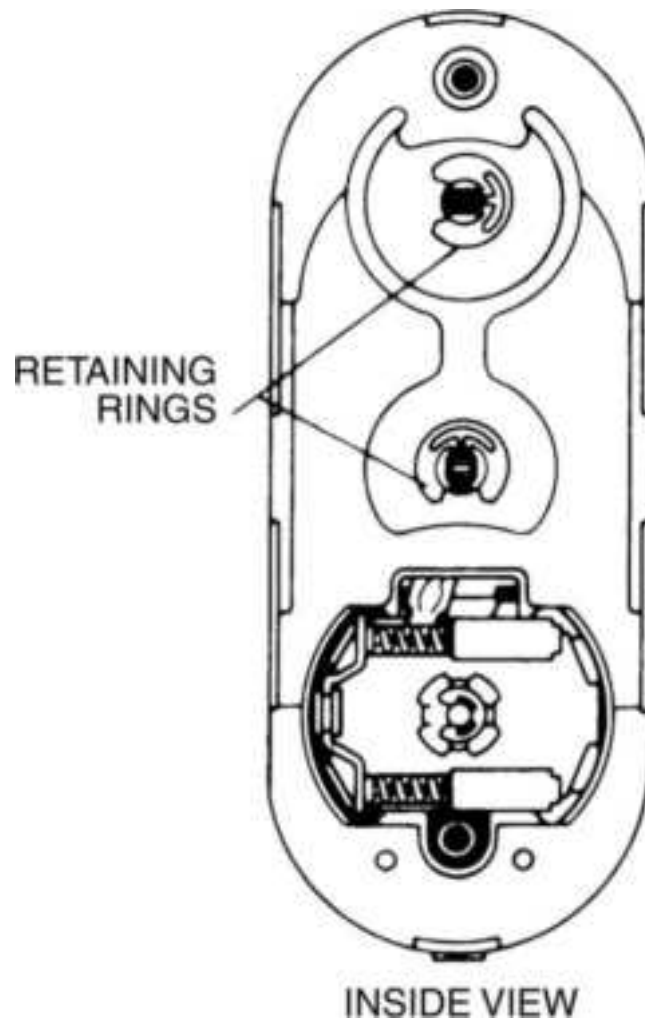

**Figure 13.111** Right-hand conversion, Step 19.
19. Install the inside retaining ring (Fig. 13.111 ).